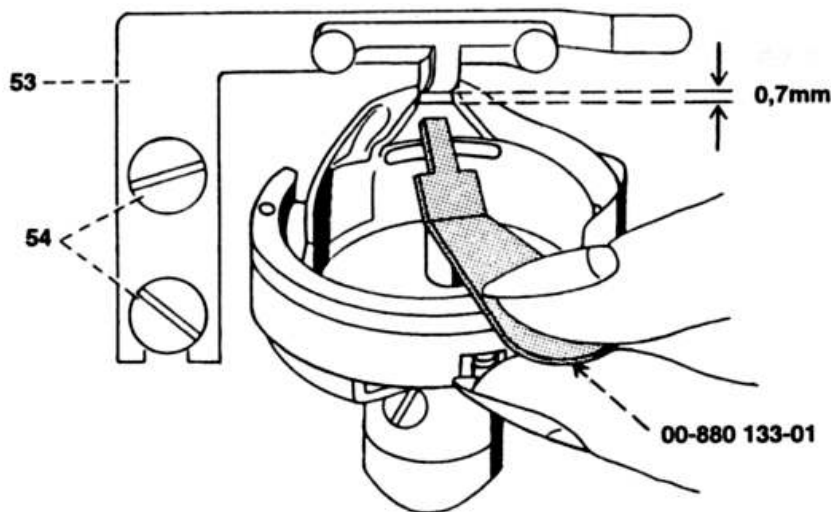

Fig. 14
- It must be possible to insert the clearance gauge 00-880133-01 with ease but without play between the position finger and the bottom of the groove in the bobbin case base (fig. 14).